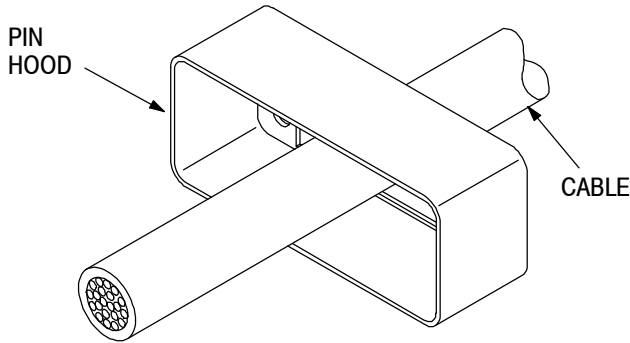

Figure 3
1. Place pin hood (if used) over cable with the open end toward the end of the cable to be terminated in the connector. See Figure 3.